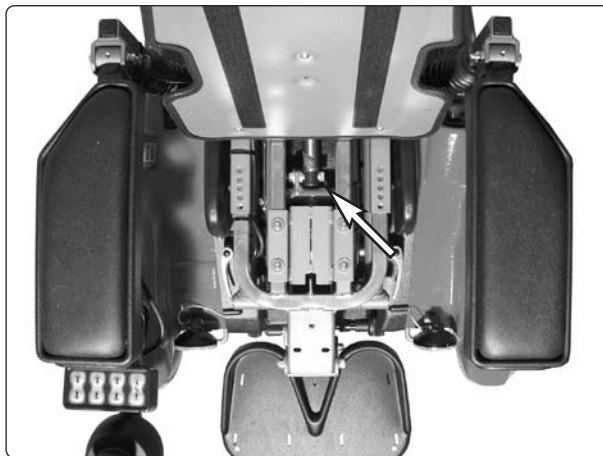

Fig. 6. Lift mechanism front fixing.
3. Remove the front fixing from the lift mechanism, see fig. 6.